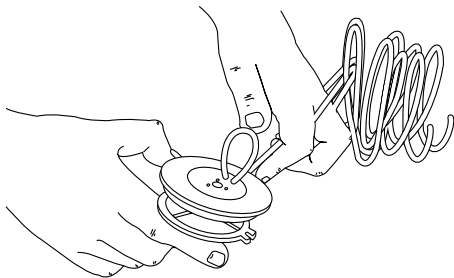

Fig. 16
6. Take approximately 25 feet (7.6 m) of new 0.080 in. (2.03 mm.) trimming line, loop it into two equal lengths. Insert each end of the line through one of the two holes in the inner reel (Fig. 16). Pull the line through the inner reel so that the loop is as small as possible.